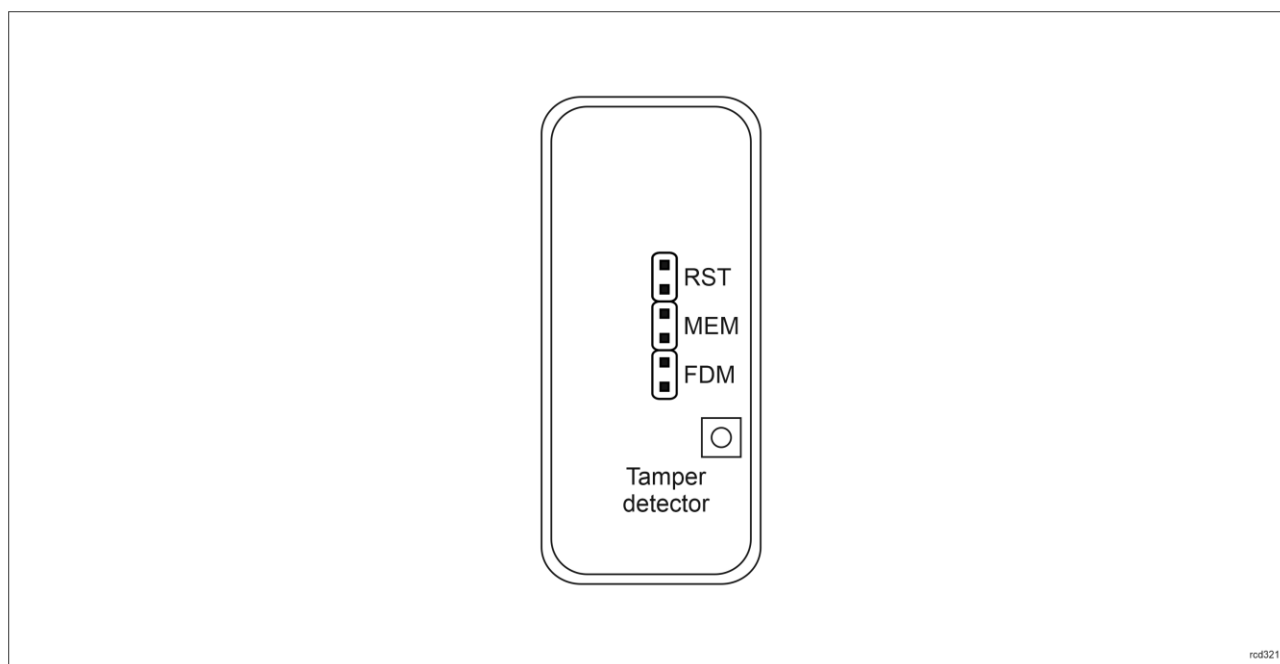

Fig. 4 Programming jumpers
Built-in tamper (sabotage) detector enables detection of unauthorized opening of device's enclosure as well as detachment of the enclosure from wall. The detector is internally connected to the terminal's input. It does not require low level configuration (RogerVDM) or any additional installation arrangements but it is essential to mount front panel in such way as the tamper detector (fig. 4) would firmly press the back panel. The detector requires high level configuration which consists in assignment of the function [133] *Tamper Toggle* on the level of a *Main Board* of a controller in VISO software navigation tree.
- Front panel should be attached in such way as the tamper detector (fig. 4) would firmly press the back panel.
In RACS 5 v2 system the reader can be installed at site without previous configuration. According to AN006 application note, its address and other settings can be configured from VISO v2 management software and during such configuration the access to its service contacts (fig. 4) is not required.
2. Remove jumper from MEM contacts (fig. 4) if it is placed there.
2. Place jumper on MEM contacts (fig. 4).